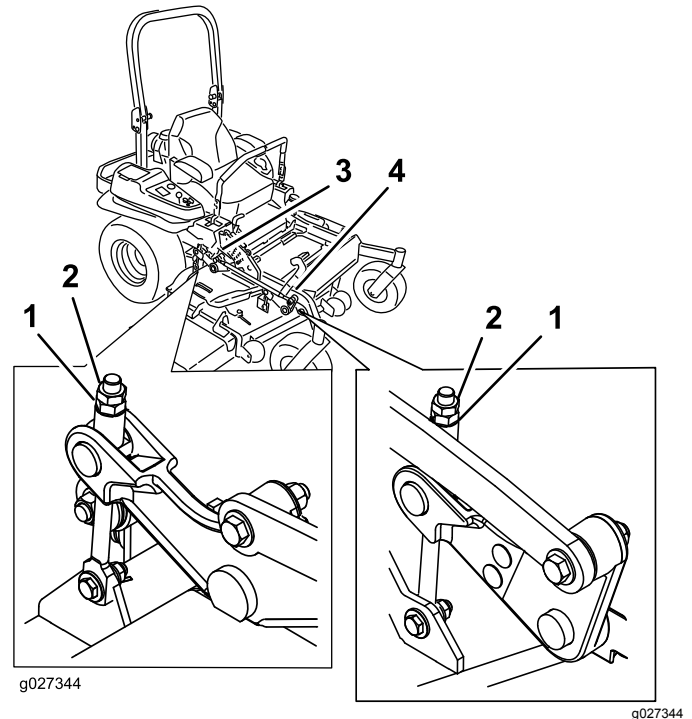

Figure 92
- 10. Fine-tune the adjustment nut on the front deck lift assembly by turning it (Figure 92).
16. Fine tune the screw adjuster by turning it to get 8.3 mm (3-1/4 inches) height (Figure 92).